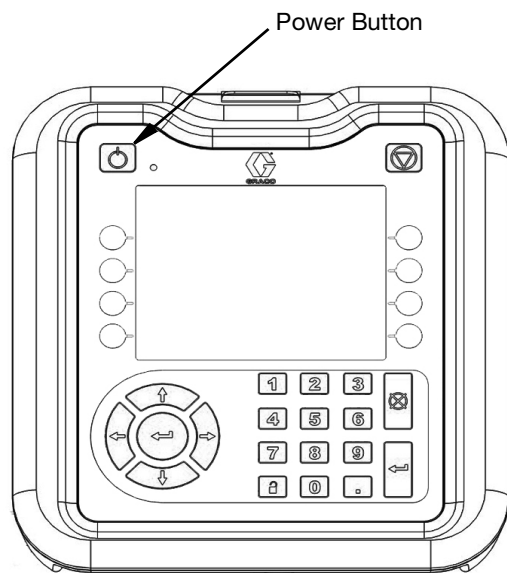

FIG. 40
- Enable the ADM by pressing the top left power button. See FIG. 40.